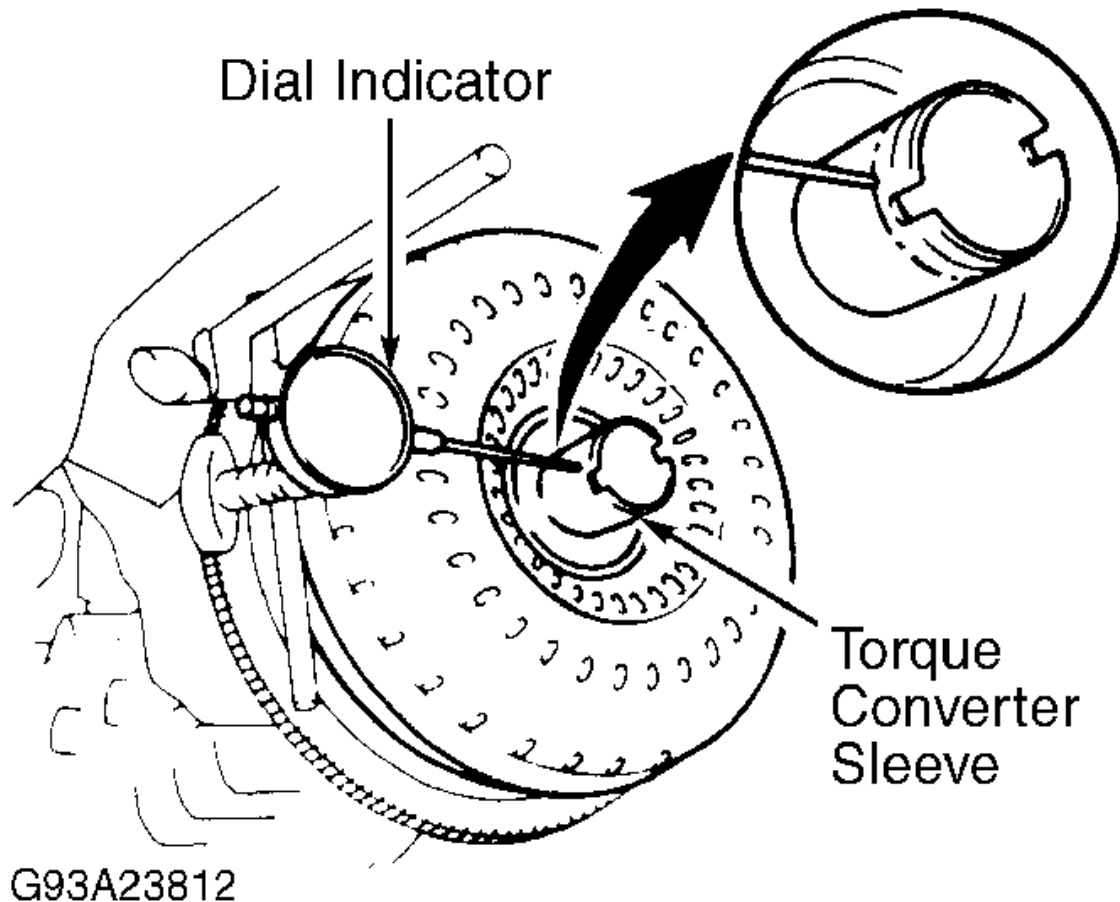

Fig. 10: Checking Converter Sleeve Runout
1. Temporarily mount torque converter to drive plate. Mount a dial indicator with needle resting on converter sleeve. See Fig. 10 . Rotate converter. If runout exceeds .012" (.30 mm), ensure converter is properly mounted to drive plate.